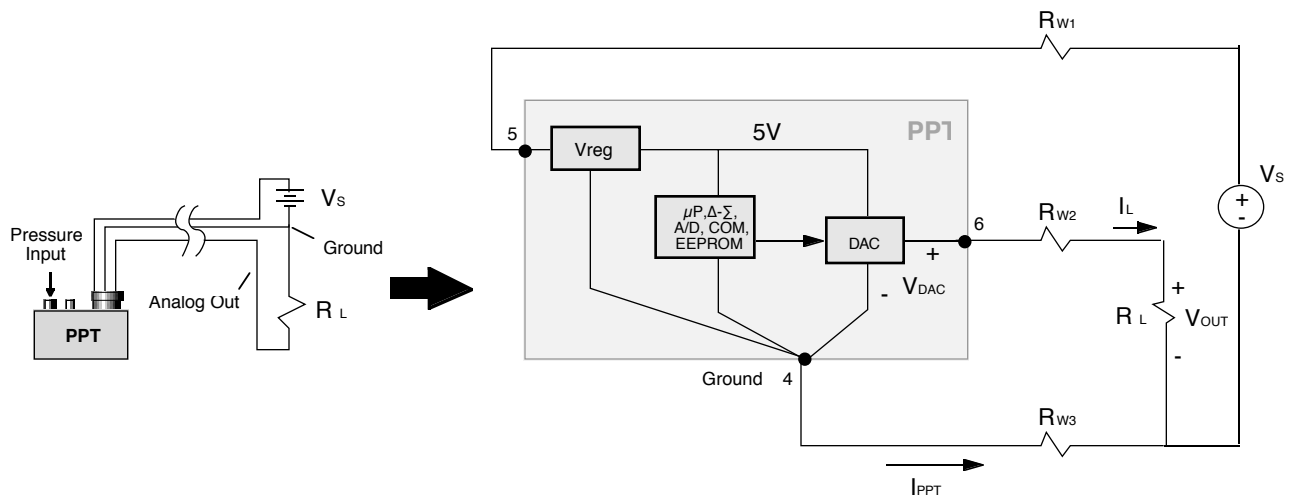
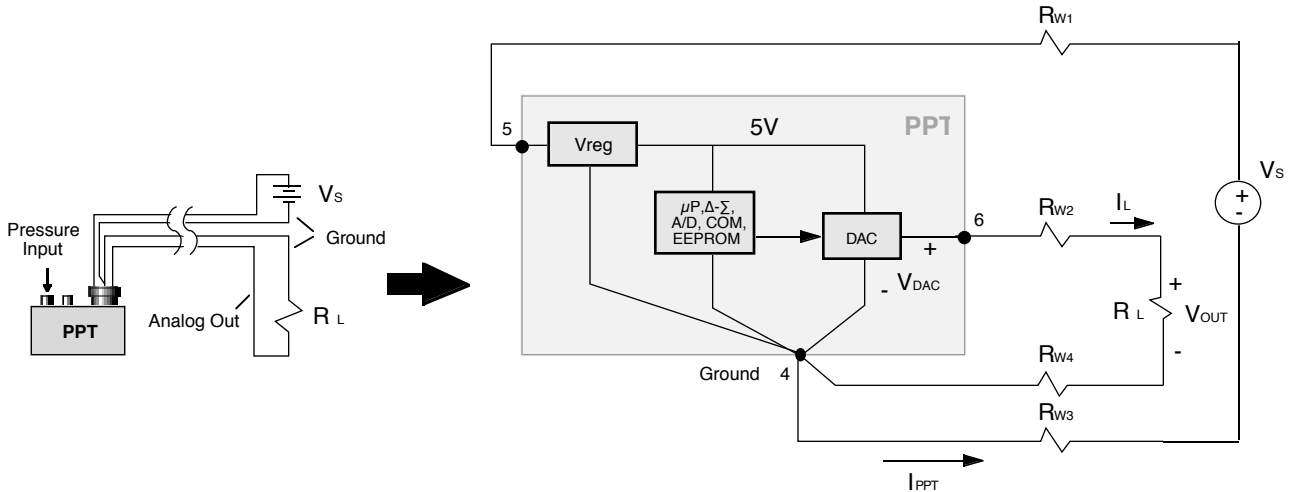

Figure 1 - Incorrect method of analog grounding
Figure 2 - Proper analog grounding using a single point connection
A concern for any analog output is the amount of noise, or unwanted signal, present at the point to be measured. This is a concern for the PPT since a microprocessor, and other logic devices, are used internally to compensate the pressure readings. These internal circuits create switching noise that could end up on the analog output signal if care is not taken to properly ground connection points. Consider the example shown in Figure 1 below. Here, a power supply (Vs) and load resistor (RL) are connected some distance away from a PPT. The Analog Out signal from the PPT is connected to the load resistor and is
Using a single point connection at the PPT Ground (pin 4) terminal eliminates the effect of the  $I_{PPT}$  digital switching noise. The disadvantage of this is a duplicate wire must be run from the PPT to the load resistance  $R_L$  (see Figure 2). The benefit is that the equation for  $V_{OUT}$  does not include the  $I_{PPT}$  term:
The equivalent circuit using a single point ground is also shown in Figure 2 above. The pressure signal from the PPT is output on pin 6 as  $V_{DAC}$ . This signal now appears across the load  $R_L$  without any switching noise component from current  $I_{PPT}$ . This technique is strongly recommended for transmitting the analog pressure output from the PPT.
To demonstrate the effects of analog grounding on the output voltage an example is presented here with typical conditions. Assume the following values for the circuits shown in Figure 1 and Figure 2.
Poor analog grounding: (Fig. 1)
Good analog grounding: (Fig. 2)